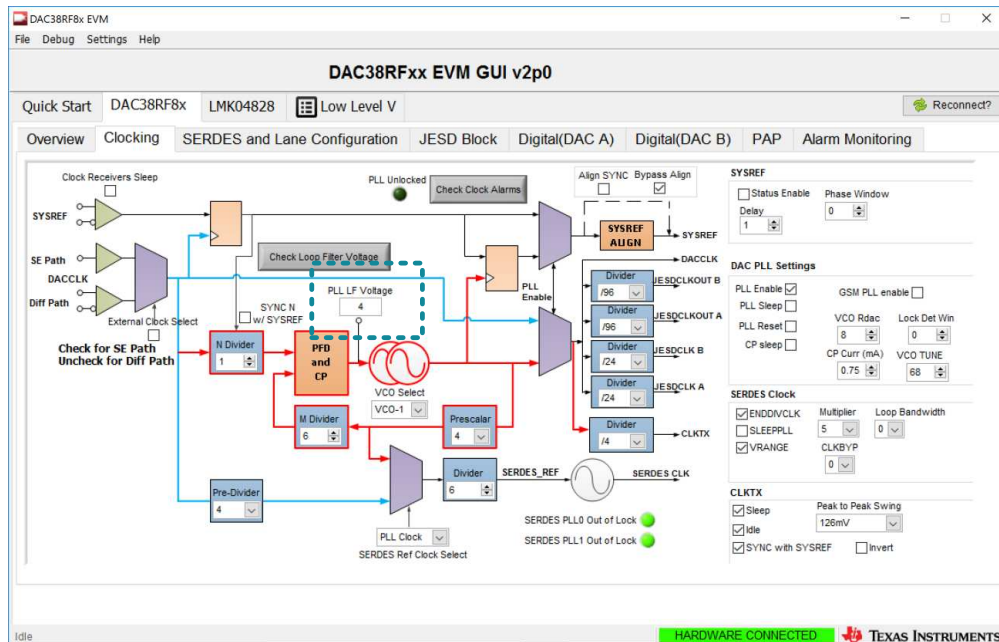

Figure 3. DAC38RF8x EVM GUI Clocking Tab
- Step 5. Select the *DAC38RF8x* tab and navigate to the *Clocking* sub-tab (see Figure 3). The box labeled *PLL LF Voltage* should be populated with a value from 2 to 6. If this value is correct, the configuration and PLL tuning were performed correctly. Otherwise, verify that the contents of the *Quick Start* tab are correct and repeat the previous steps.